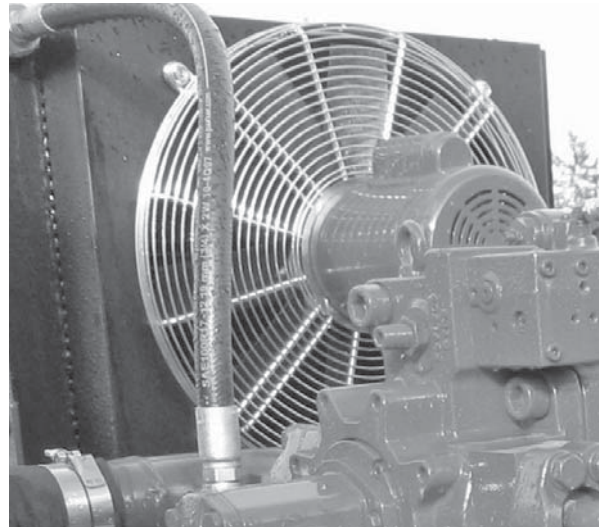
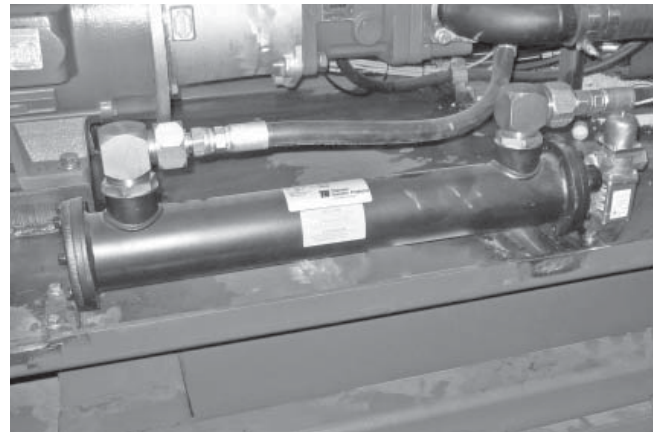

Figure 15 - Oil Cooler
Figure 16 - Heat Exchanger
**Oil Cooler / Oil To Water Heat Exchanger** The Hydraulic system operate’s more accurately when the oil viscosity is consistent. Since oil viscosity varies with temperature, your power unit is equipped with a Oil Cooler (see Figure 15) or Oil to Water Heat Exchanger (see Figure 16) to automatically maintain the oil temperature below 140°F.